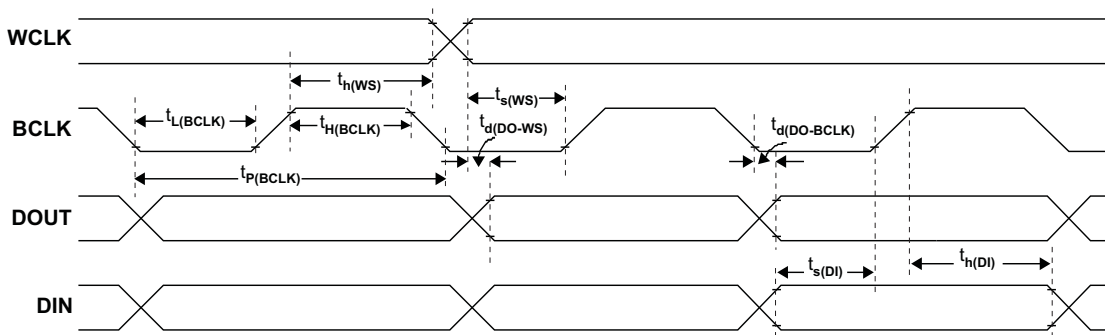

Figure 5. I2S/LJF/RJF Timing in Slave Mode
**Table 2. I2S/LJF/RJF Timing in Slave Mode (see Figure 5)**